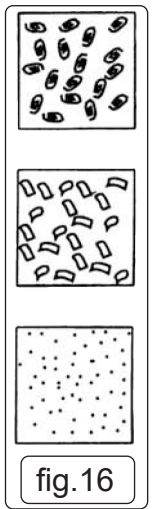

fig.16
- 7.6.6. To determine if the feed is incorrect, examine the chips produced (fig.16). When the blade is operating at the ideal feed for the speed, the chips will be curled and continuous. If the chips are thick and not continuous, the feed pressure should be reduced. If the chips are powdery, the feed pressure by cleaning on head.